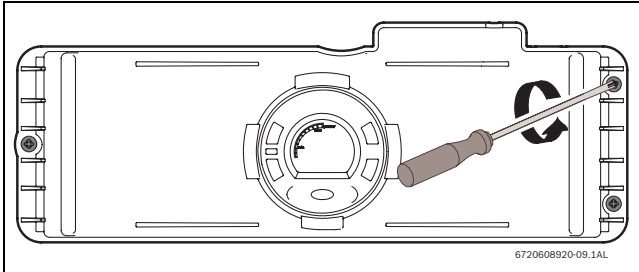
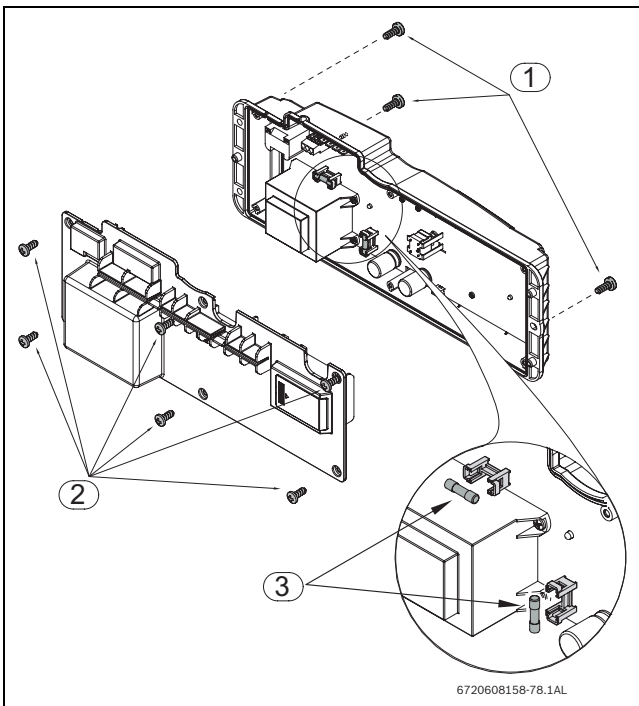

Fig. 49
Fig. 50 Fuses position
- ▶ Remove the three screws from the control unit (→ Fig. 49 and → Fig. 50, pos. 1).
- ▶ Remove the six screws from the back cover of the control unit (→ Fig. 50, pos. 2).
- ▶ Check the fuses in the printed circuit board (→ Fig. 50, pos. 3)
- ▶ After checking the fuses, reinstall all parts in reverse order (→ Fig. 50, pos. 3).